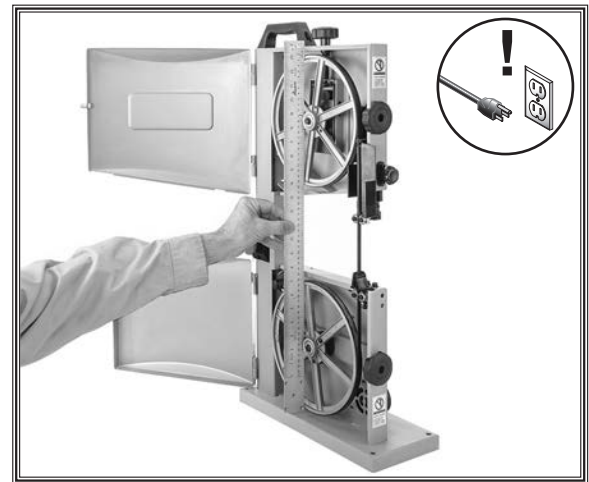

Figure 48. Example of checking if the wheels are coplanar.
3. With blade on and properly tensioned, hold a straightedge close to center of both wheels. Make sure straightedge fully extends across the rims of both wheels, as shown in **Figure 48**.